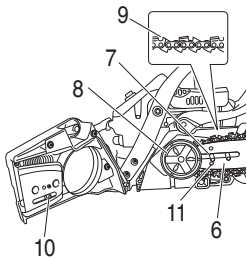
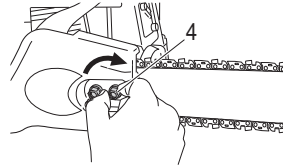

Fig. 5
Fig. 6
3. Install the guide bar (6) onto the bolts (7), then push it toward the sprocket (8) as far as it will go. (Fig. 5)
4. Confirm the direction of saw chain (9) is correct as in the figure, and align the chain on the sprocket. (8) (Fig. 5)
6. Install the side case (3) onto the bolts (7). Make sure that the boss of chain tension adjust bolt (10) fits into the hole of the bar (11). (Fig. 5) Then tighten the guide bar clamp nuts (4) by hand that allows the chain bar end to move up and down easily. (Fig. 6)